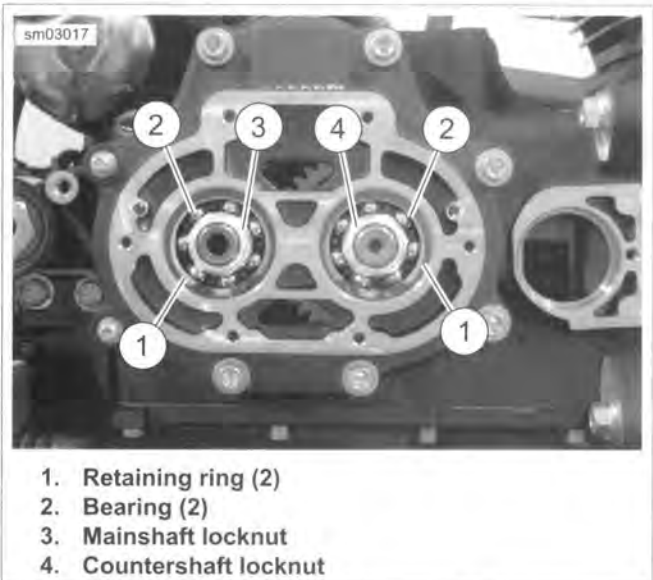

Figure 6-16. Bearing Housing Locknuts
6. See Figure 6-16. Using dog rings, lock two gears in place. Temporarily place transmission assembly into transmission case.